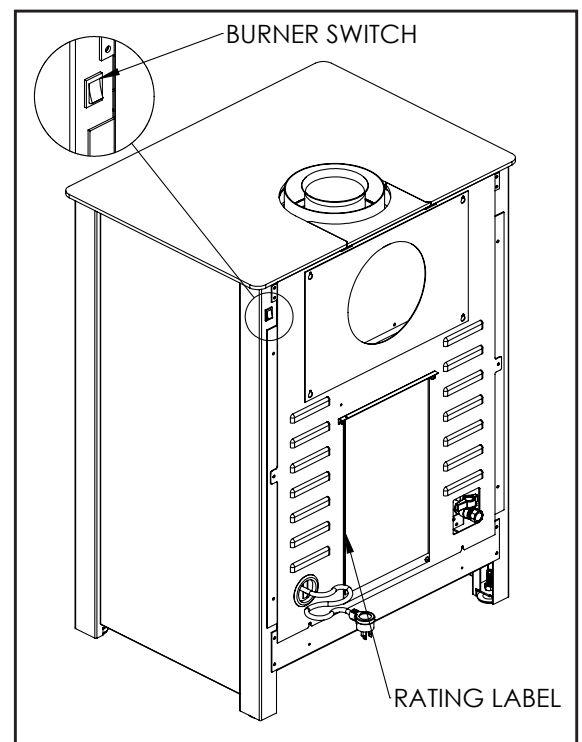

Figure 6. Burner Switch and Rating Plate
The rating label and lighting instructions are located on the backside of the Stove (Figure 6).
- C) Flip the burner switch, located at the top right rear of the S20, to ON (see Figure 6).